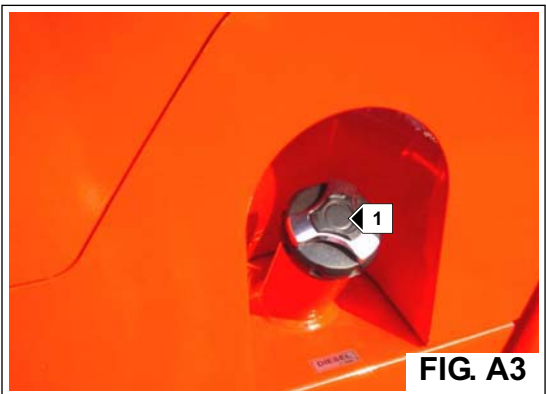

FIG. A3
- Remove the cap "1" (Fig. A3).
- Replace the cap "1" (Fig. A3).